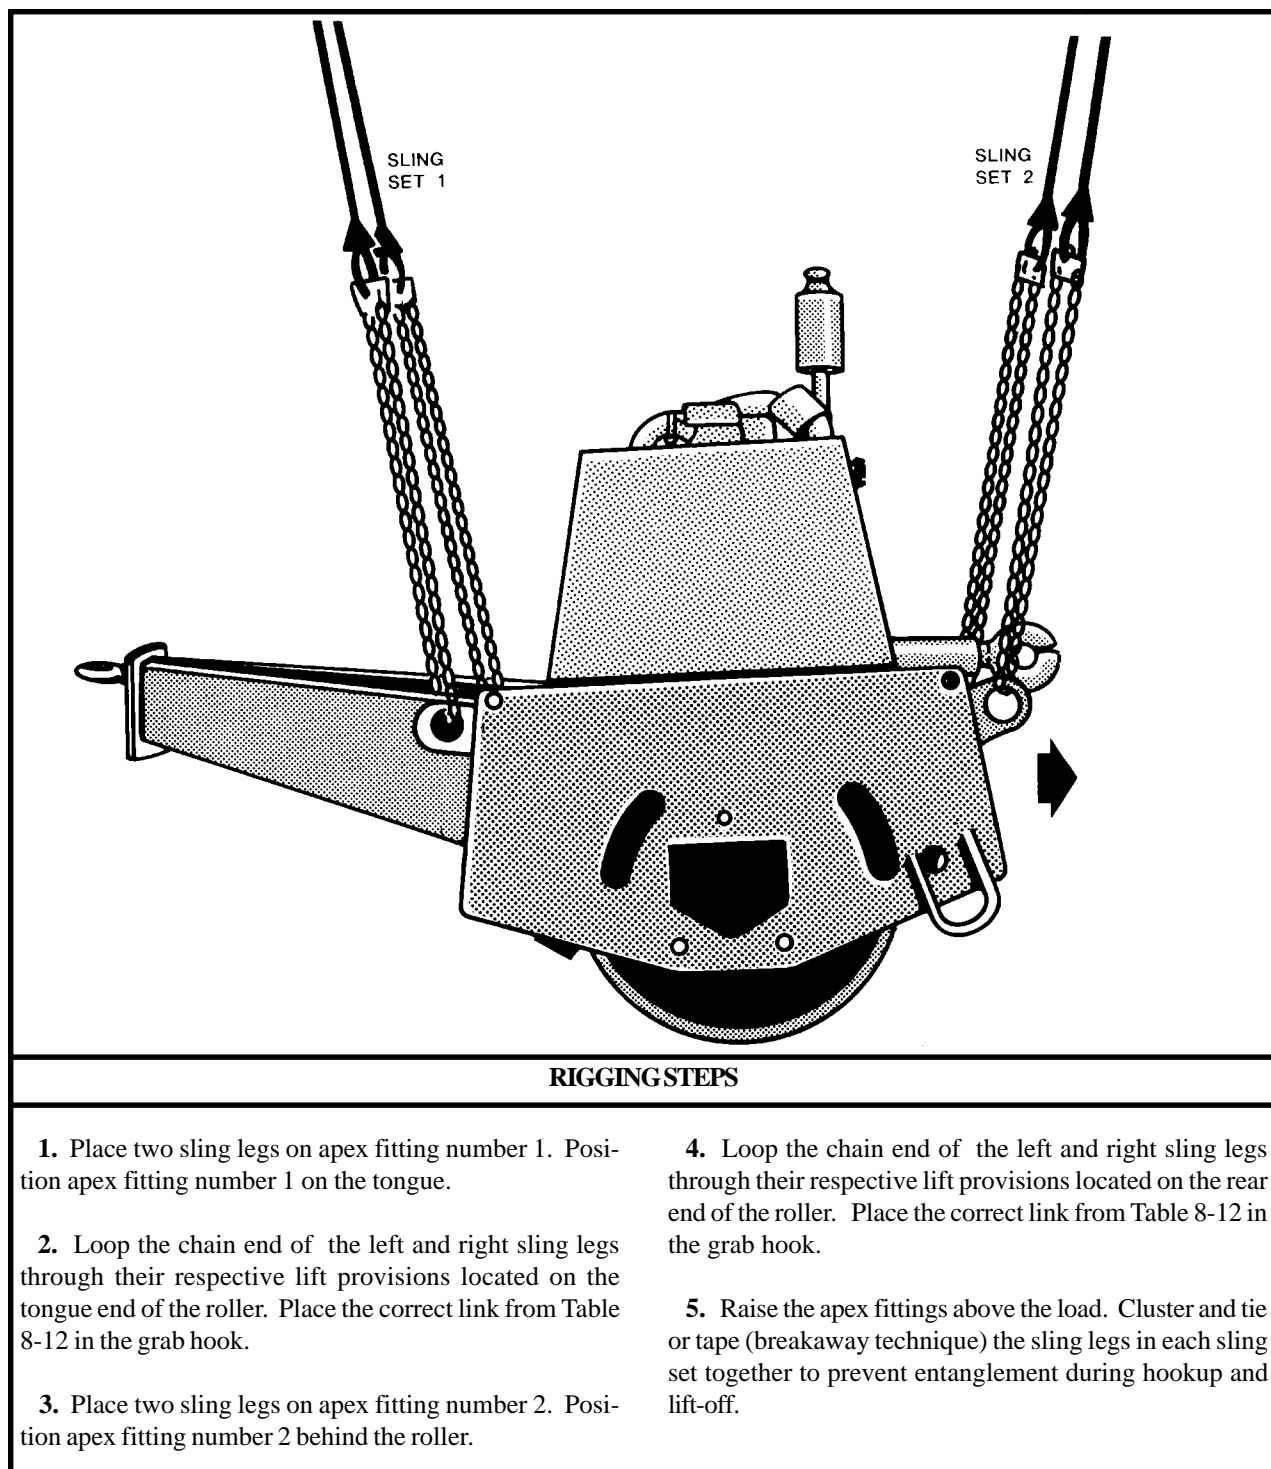

Figure 8-12. Roller, Towed, Vibrating
(2) Rigging. Rig the load according to the steps in Figure 8-12.
(3) Hookup. Two hookup teams are required for this load and stand beside the roller. The static discharge person discharges the static electricity. The forward hookup person places apex fitting 2 onto the forward cargo hook. The aft hookup person places apex fitting 1 onto the aft cargo hook. The hookup teams then carefully dismount the sections and remain close to the load as the helicopter removes slack from the sling legs. When successful hookup is assured, the hookup teams quickly exit the area underneath the helicopter to the designated rendezvous point.
(4) Derigging. Derigging is the reverse of the preparation and rigging procedures in steps d (1) and d (2).